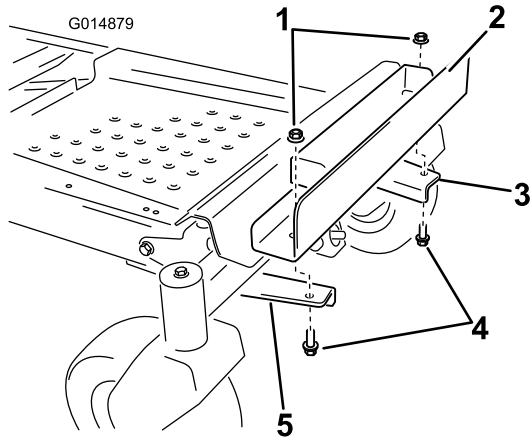

Figure 6
- Install the weight holding bracket to the mounting brackets (Figure 6). Align the inboard holes in the bracket with the mounting brackets installed previously. Make sure the bracket is centered on the frame. Secure with two bolts (3/8 x 1 inch) and two lock nuts (3/8 inch).